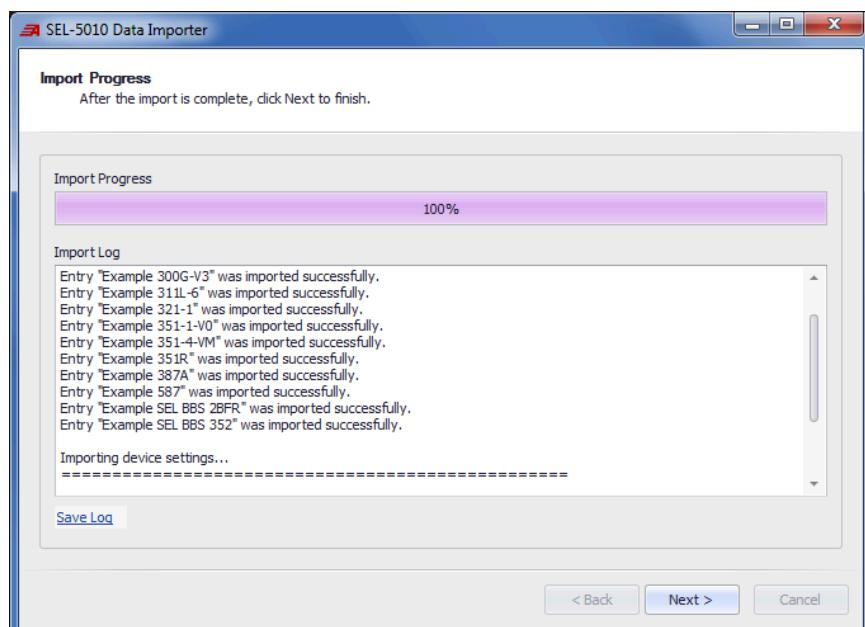

Figure 9.8 Follow Progress of Import
Step 11. Click **Next** on the **Ready to Import** window to display the **Import Progress** screen in *Figure 9.8*.